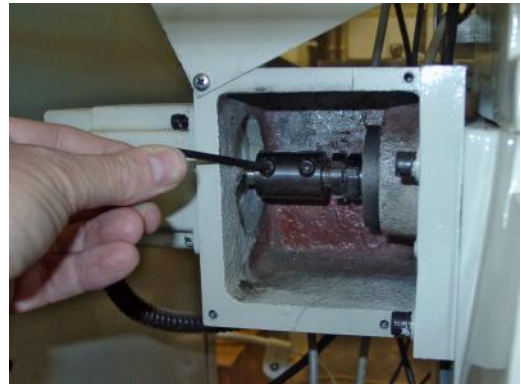

Figure 2.6 – coupling the Y drive motor
- Ensure that the coupling is centrally positioned on motor shaft and the machined end of the ballscrew and tighten the cap screws on the coupling. Then tighten the cap screws holding the motor (figure 2.6).